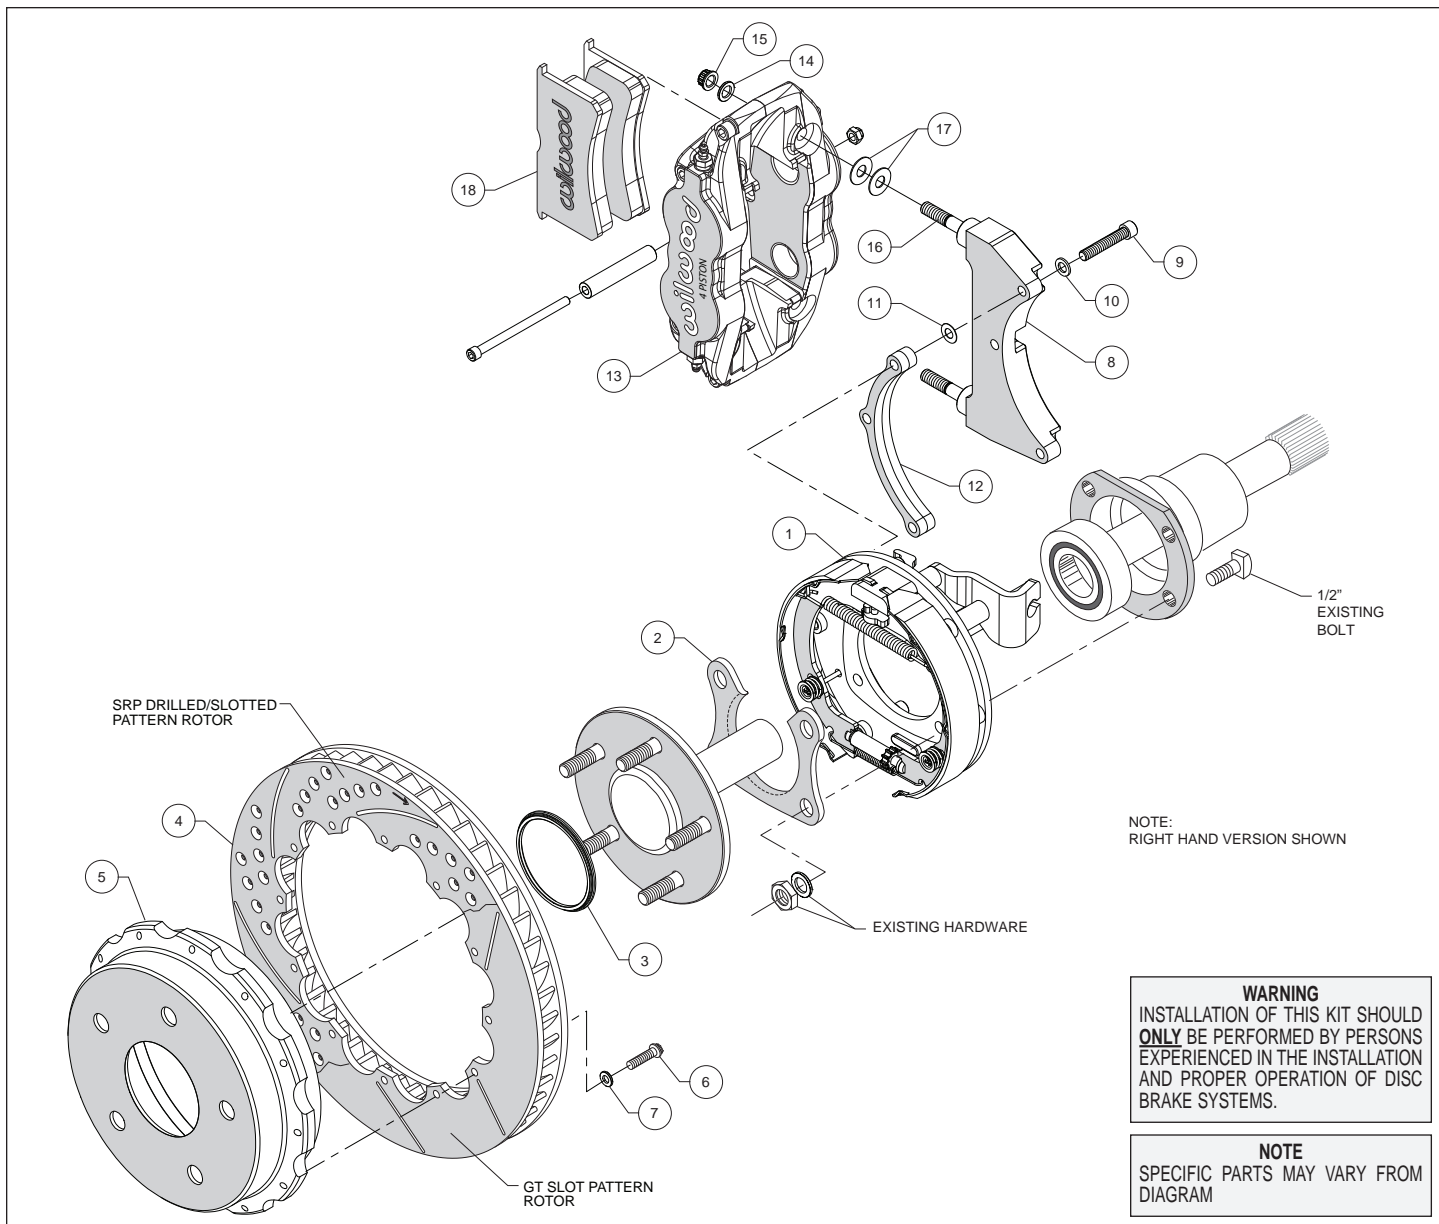
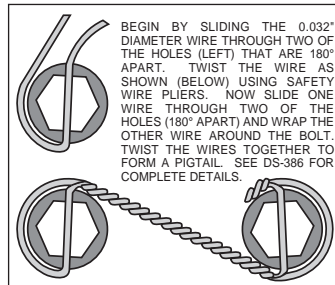

Figure 1. Typical Installation Configuration
Figure 5. Safety Wire Diagram
Assembly Instructions (numbers in parenthesis refer to the parts list, and Figure 1 on the preceding pages): **CAUTION:** All mounting bolts must fully engage clinch nuts. Be sure to check that all bolts are either flush or protruding through flanged side of clinch nut after shimming.
- Orient the bracket assembly (1) as shown in Figure 1 and Photo 1 and slide it onto the axle. Insert the axle and bracket into the axle housing. Ensure that the bracket assembly backing plate fits flush against the axle housing flange.
- Install the bearing retainer (2) with the opening pointing upward and the lip facing inward (toward the bearing), as shown in Figures 1 and 4, and Photo 2. Secure retainer and bracket assembly to the axle housing flange using the Original Equipment Manufacturer (OEM) bolts, washers, and nuts, Figure 1. Apply red *Loctite*® 271 to the OEM bolt threads and torque to OEM specifications.
•**NOTE:** Please reference the caution statement at the beginning of the assembly instructions. The caliper mounting bracket (8) should initially be installed with clean, dry threads on the mounting bolts. Orient the bracket as shown in Figure 1 and Photo 3, and install using bolts (9) and flat washers (10). Initially place one .015" shim washer (11) on each bolt between the bracket (8) and spacer (12), Figure 1. Temporarily tighten the mounting bolts. **NOTE:** End of bolt should not exceed inside face of insert. The bracket must tighten squarely against the back side of the bracket kit assembly (1). Inspect for interference from casting irregularities, machining ridges, burrs, etc. Later, after the caliper alignment has been checked, the mount bolts will be secured using red *Loctite*®.
•Orient the rotor (4) and the hat (5) as shown in Figure 1 and Photo 3. Attach rotor to hat using bolts (6) and washers (7). Using an alternating sequence, apply red *Loctite*® 271 to the threads, and torque to 140 **in-lbs**. For an added measure of security, the bolts may be safety wired using standard 0.032 inch diameter stainless steel safety wire as shown in Figure 5. Please refer to Wilwood's data sheet DS-386 (available at www.wilwood.com/Pdf/DataSheets/ds386.pdf) for complete safety wire installation instructions.
•Slide the rotor registration adapter (3) onto the axle register on the axle flange with the smaller O.D. facing toward the rotor/hat (4/5), Photo 5. Align the hole pattern in the hat with the stud pattern on the axle flange and slide into place, Figure 1 and Photo 6. **NOTE:** The rotor/hat must fit flush against the axle flange or excessive rotor run out may result. Install three lug nuts (finger tight) to keep the rotor/hat assembly in place while continuing with the installation. **NOTE:** Some OEM and after market axles come with stud sizes larger than 0.50" diameter. Verify stud size and have a qualified machine shop drill the bolt circle of the hat/rotor to the correct stud size, if necessary.
•Lubricate the caliper mounting studs (16) with lightweight oil. Initially place two .035" thick shims (17) on each stud as shown in Figure 1 and Photo 7. Mount the caliper (13) onto the bracket (8) using lock nuts (15) and washers (14), Figure 1. Temporarily tighten the lock nuts and view the rotor through the top opening of the caliper. The rotor should be centered in the caliper, Photo 8. If not, adjust by adding or subtracting shims (11) between the bracket (8) and the spacer (12). Always use the same amount of shims on each of the three mounting bolts. Once the caliper alignment is correct, remove the bracket mounting bolts (9) one at a time, apply red *Loctite*® 271 to the threads, and torque to 180 **in-lb**.